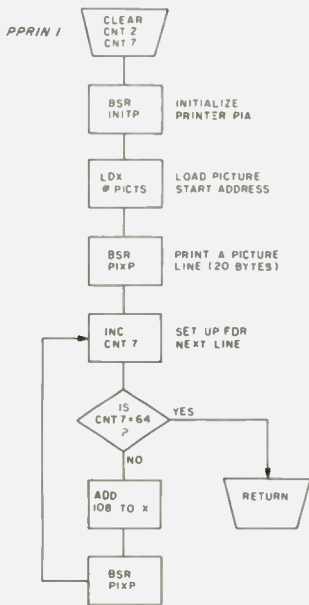

Fig. 4. PPRIN routine. Print a SSTV picture flowchart: CNT 2 = pixel counter and CNT 7 = line counter.
This routine prints an ASCII character picture of the pixels in computer memory. The program is written for the SWTPC PR-40 printer. This printer has only 40 columns. In order to print a complete SSTV picture, 120 columns were printed on three pages, and every other line (64). When these three pages are joined together, a complete picture was formed. A total of 7 characters was printed, which represent the 16 gray levels of a picture. I'm sure the character selection can be improved upon. The selection was subjectively chosen, with little experimentation. One point was clear: A character for each gray level was not the way to go. This technique produced poor picture quality. Fig. 4 shows a flowchart of PPRIN. Table 1 is a list of gray level vs. character and memory location. This table allows the user to experiment with the various ASCII codes.